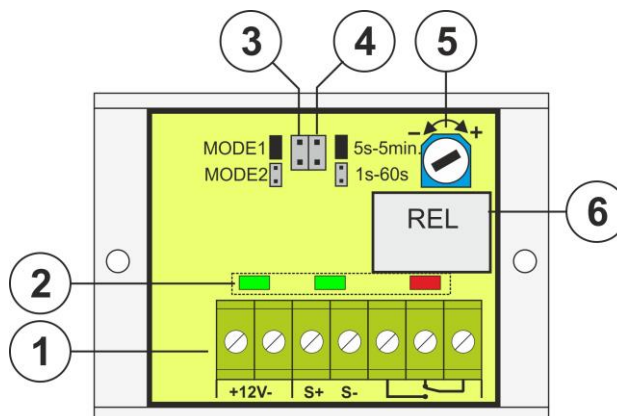

Fig.1. The view of the module.
No. [Fig.1]	Description
①	<p>Connector: +12V- - The module's power supply, DC voltage S+ - control input supplied by the positive power supply S- - control input activated by the negative power supply (power supply minus)  - REL relay connector</p> <p>CAUTION! In Fig.1 the set of contacts shows a potential-free status of the relay.</p>
②	<p>LED (green): – optical indication green – supply voltage green – trigger signal indication (S + or S-) red – The REL relay activation indication – (the LED is on when the relay is activated)</p>
③	<p>Operating mode jumper:  mode 1  mode 2 Description:  jumper on,  jumper on</p>
④	<p>Time range jumper:  1s – 60s. time range  5s – 5 min. time range Description:  jumper on,  jumper on</p>
⑤	<p>Potentiometer for time adjustment</p>
⑥	<p>Relay</p>